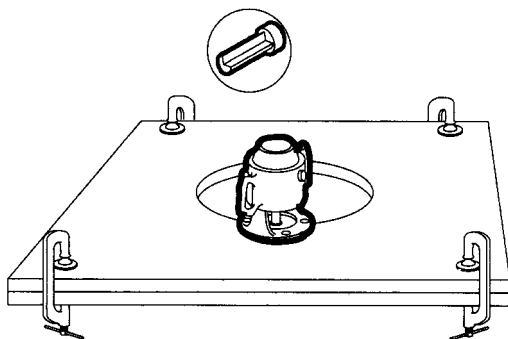

Figure 1
- Make the cutout using a 2 HP to 3 HP router with a 1" (25 mm) template guide and a $\frac{3}{8}$ " (10 mm) carbide-tipped, single-flute bit (see Figure 1).